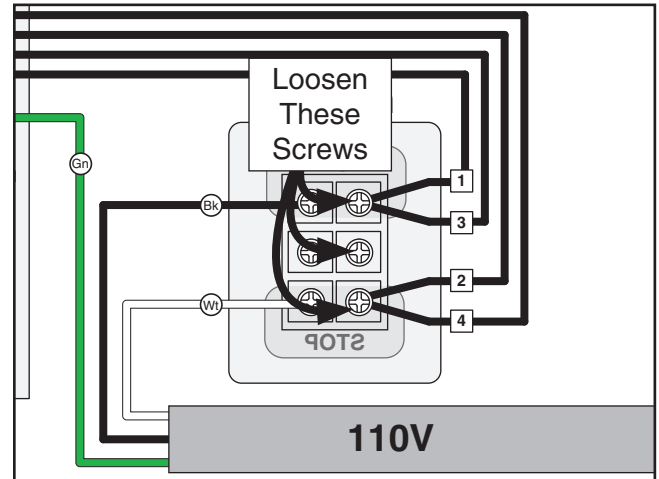

Figure 6. Location of screws to be loosened.
4. Loosen the screws indicated in **Figure 6**.